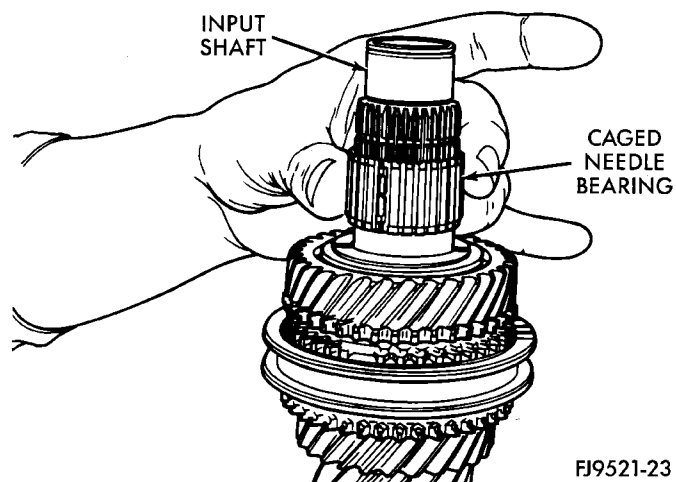

Fig. 94 Caged Needle Bearing Installation
(10) Install 5th gear caged needle bearing (Fig. 94).